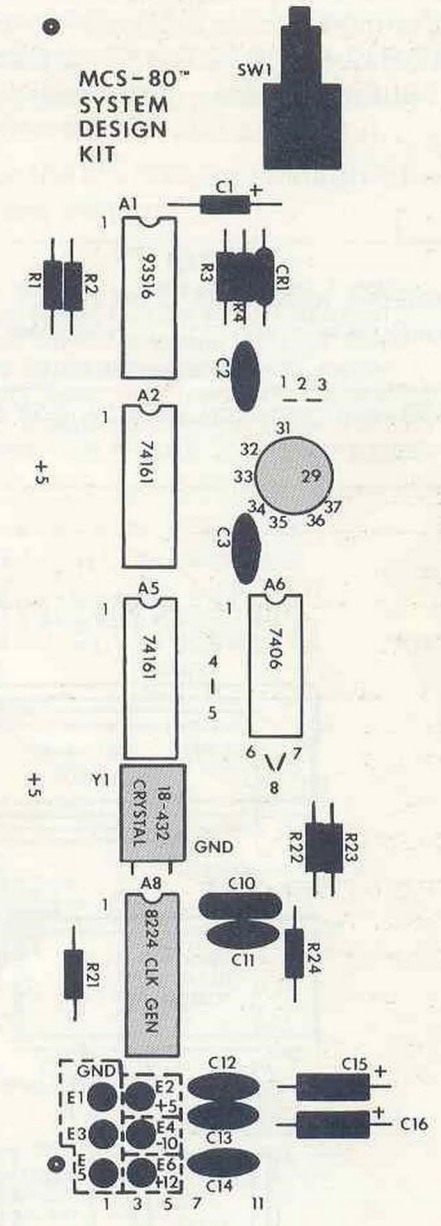

Figure 2-6. Construction Figure #4.
- You have now completed area one. Compare your board with Figure 2-6.